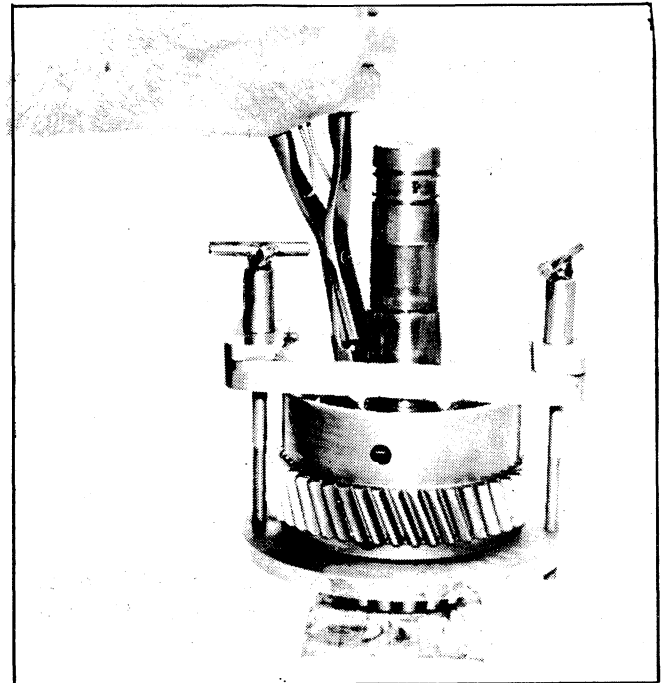

Figure 8-7. Compressing Clutch Piston Return Spring and Removing External Retaining Snap Ring.
9. Compress the clutch return spring (Figure 12-3, 10) with special tool T-16752 and remove external snap ring (11). See Figure 8-7.
4. Use special tool T-16752 to compress the spring and install external snap ring (Figure 12-3, 11). See Figure 8-7.